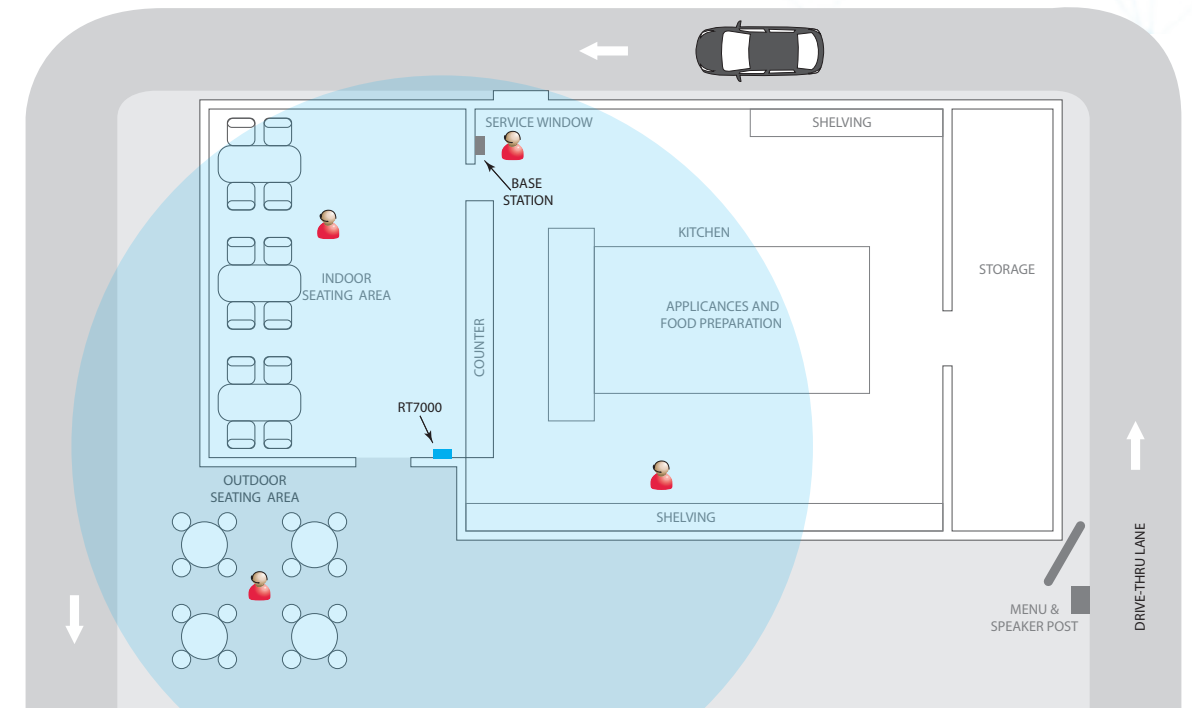

Fig. 1.3
- Choosing a good RT7000 (transceiver) mounting location is critical (see Step 5, Fig. 1.3, 1.4, and Component Notes on page 3 for more details). See page 4 for tools/equipment required.
- 5 **Critical Step:** Loosely mount the RT7000 in a central location for optimal coverage (until range tested in steps 9 & 10 using the Installation Wizard). For example, notice Fig. 1.3 and 1.4. They show two different store layouts with specific targeted areas where the headsets are primarily used. In these examples, the location selected for the RT7000 (represented by the small blue rectangle) offered the best coverage indicated by the blue circled areas. Each store required the RT7000 to be mounted in a different but central location to provide the best all-around coverage unique to the store's need. Store layout and obstructions also affected placement and range. (see "Component Notes" on page 3 for more details on the RT7000 placement).